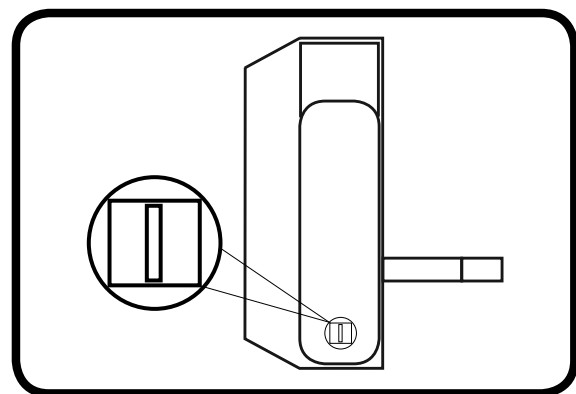

Fig.2
3. Re-fit the keypad and inside handle so they are now on opposite sides, ensuring that the flat part of the spindle is facing up and down or at the 12 and 6 o'clock position as per **fig.2** below.